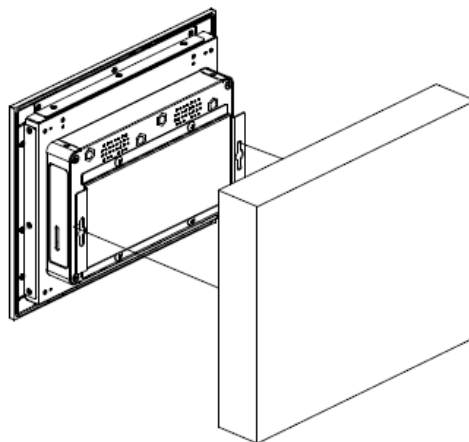

Figure 2-9: Mounting the panel PC on the wall
- Step 2** Locate the DIMM socket on the mainboard, as shown in Figure 2-9.